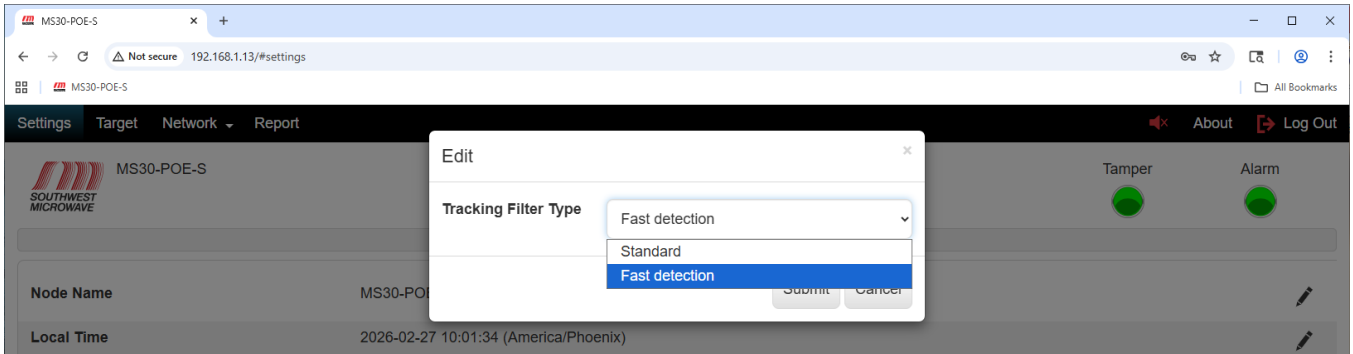

Figure 9.5 – Tracking Filter Type
To edit the “Tracking Filter Type” select the pencil icon at the end of the Tracking filter type field (far right on screen) to open the “Tracking Filter Type Edit” dialog box. Select the pull-down menu to display the two (2) settings as shown in Figure 9.5. The selections are Standard and Fast Detection.